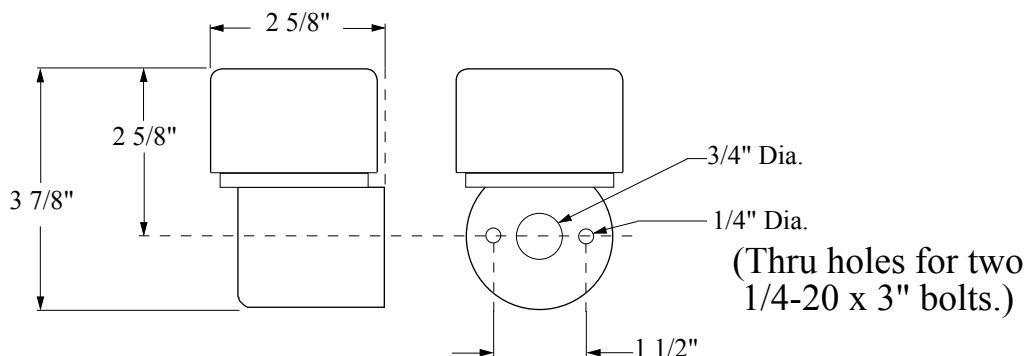

Figure 4. Pressure/Vacuum Foam Tank Vent
1. Measure and mark mounting location for vent. Make sure there is clearance for the valve before drilling hole. Refer to Figure 4 for dimensions.
1. Measure and mark mounting location for vent. Make sure there is clearance for the valve before drilling holes. Refer to Figure 4 for dimensions.